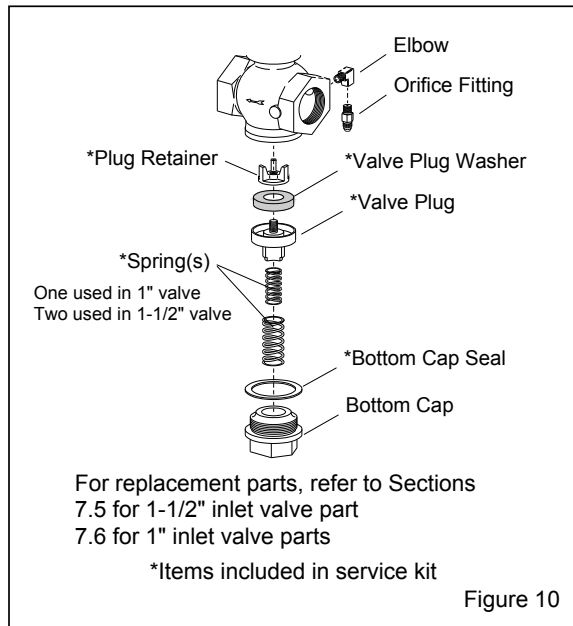

Figure 10
5.1.1 Bottom Section, Refer to Figure 10
5.1.1.5 If the top section of the valve requires service, go to Section 5.1.2, otherwise refer to the illustration in Figure 10 to reassemble the valve in reverse order.
5.1.2.8 Refer to the illustrations in Figure 10 and 11 to reassemble the remainder of the valve in reverse order.
6.1.4 With the control handle lever up, check for air escaping through the opening under the control handle lever. If no air is escaping, the orifice fitting on the inlet valve (refer to Figure 10) is blocked, or the outbound line from the orifice to the control handle is blocked and must be cleared.
6.2.2 Inspect the orifice fitting on inlet valve (refer to Figure 10) make sure it has not been switched for a fitting with a full flow orifice. The orifice on the 1/8" NPT end of the fitting must be 1/16" diameter.